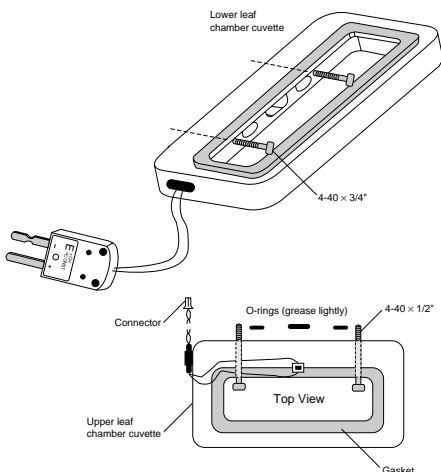
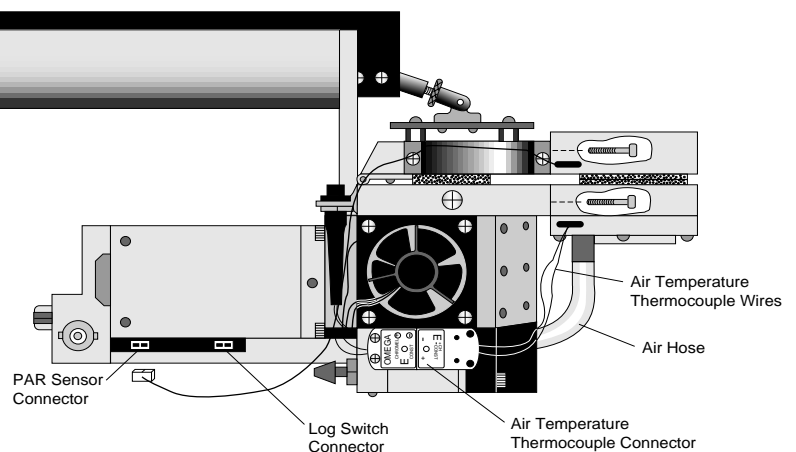

Figure 2. Thread the screws from the inside of the upper and lower chamber cuvettes.
Figure 3. Attach the PAR sensor connector and air temperature thermocouple connector.
1. Install the 6400-07 upper cuvette with two 4-40 x 1/2" screws included. Note that the screws are inserted from within the chamber cuvettes (Figure 2). Attach the PAR sensor connector as shown in Figure 3. Make sure the PAR sensor is attached to the connector near the rear of the analyzer housing, *not* to the log switch connector.
2. Install the 6400-07 lower cuvette with the two 4-40 x 3/4" screws included. Make sure that the air passage O-rings are lightly greased and in place. Attach the air temperature thermocouple connector as shown in Figure 3.